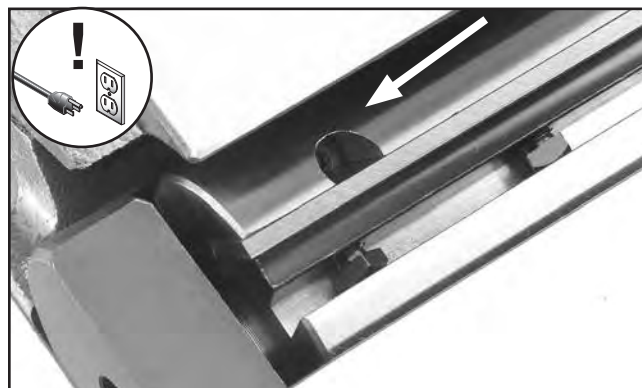

Figure 67. Jack screw access hole.
6. Using a 2.5mm hex wrench, rotate the jack screws (see **Figure 67**) in the access holes to raise or lower the knife. When the knife is set correctly, it will barely touch the middle pad of the knife setting jig. Snug the gib bolts tight enough to just hold the knife in place. Repeat **Steps 5-7** with the rest of the knives.